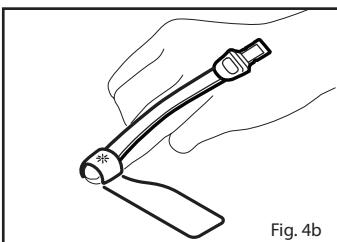

Fig. 4b
3. Refer to **Fig. 4b**. Wrap the adhesive wrap around the finger so the emitter window (\*) aligns on the top of the finger directly opposite the detector. Complete coverage of the detector window is needed to ensure accurate data.